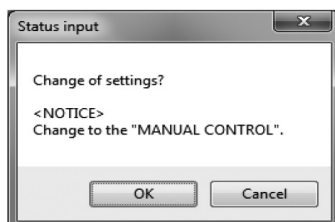

Fig.56
- ⑤ For the status input, it is possible to select from the following two types: A contact point input or B contact point input.
- ⑥ After all settings are complete, click the "OK" button to display a message box (Fig. 56). Click "OK" here to change the settings to the inputted values, and to reflect the changed setting values in the flowmeter's output. For the sake of safety, if the flowmeter's output is used to control valves or other such parts, then change that control loop to manual control so that the control loop is not influenced by the flowmeter's output